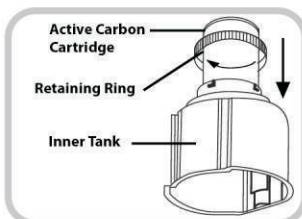

Fig. 8
3. To Install the Active Carbon Filter turn the Inner Tank upside down. Make sure the Large O Ring sits on top of the filter and place it on the Inner Tank. Slide down the Retaining Ring and align the pegs with the openings of the Inner Tank base. Turn it clockwise to secure the filter. (Fig. 8).